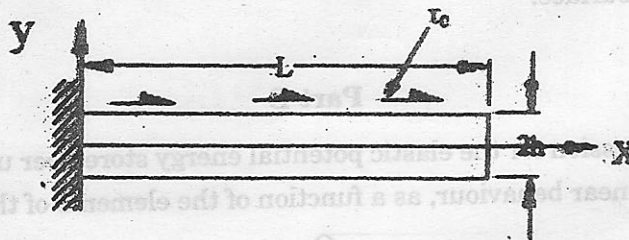

Fig. 2.
- (b) The thin cantilever shown in Fig. 2 is subjected to uniform shearing stress  $\tau_0$  along its upper surface ( $y = +h$ ) while surfaces  $y = -h$  and  $x = L$  are free of stress. Determine whether Airy stress function